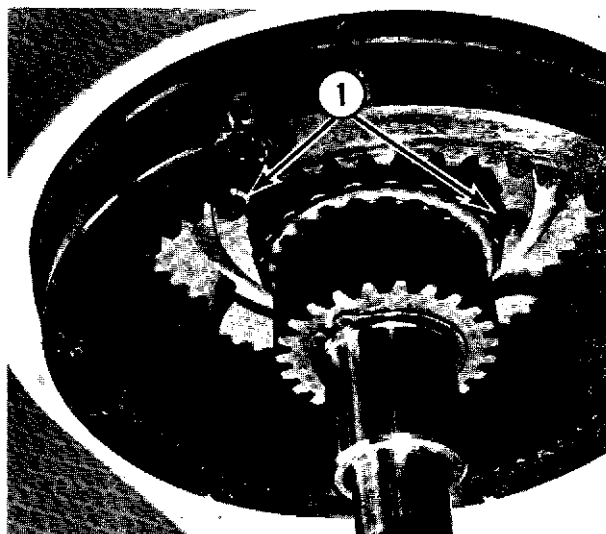

Fig. 11-8
- V. Remove the six screws (1, Fig. 11-8) from the lower planetary shaft bearing retainer. Do not let the planetary shaft fall out the bottom of the mixer.